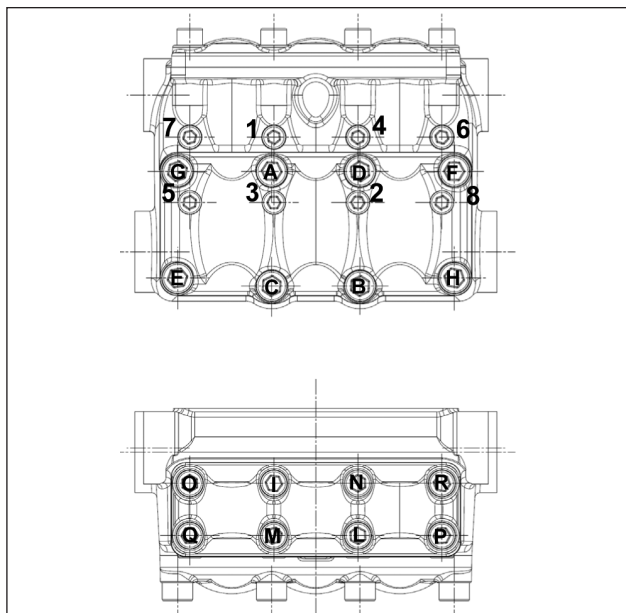

Fig. 30
* The con-rod cap fixing screws must be tightened simultaneously, respecting the phases indicated on page 18. ** The head fixing screws exploded view pos. 55 must be tightened with a torque wrench respecting the order shown in the diagram in Fig. 30. *** The valve cover fixing screws exploded view pos. 45 and exploded view pos. 58 must be tightened with a torque wrench respecting the order shown in the diagram in Fig. 30. **** To secure the 2nd PTO flange, use Loctite 243 Blue Code 12006400.